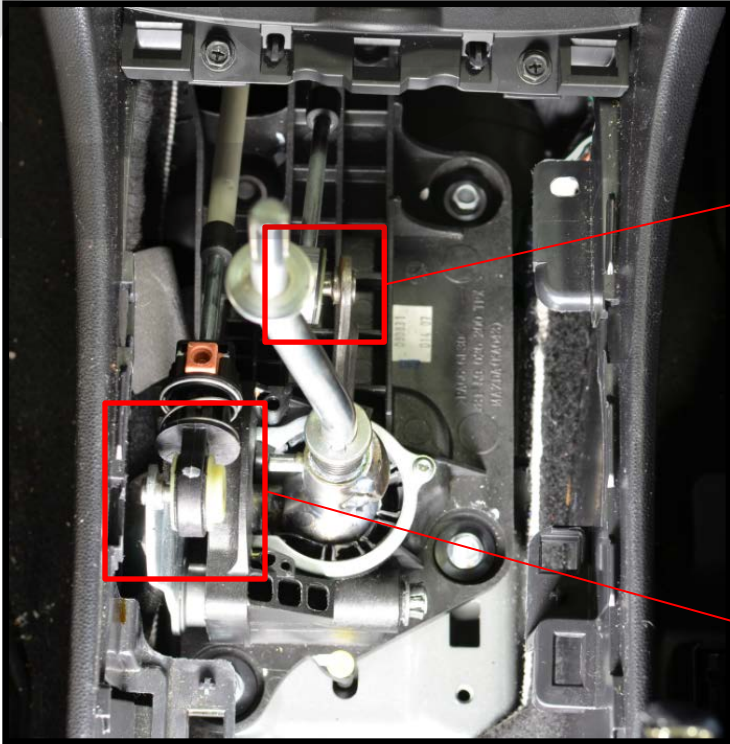

Figure 2a
a) Use a door panel removal tool to pry the shift cable ends off the shifter ball studs (Figure 2a).